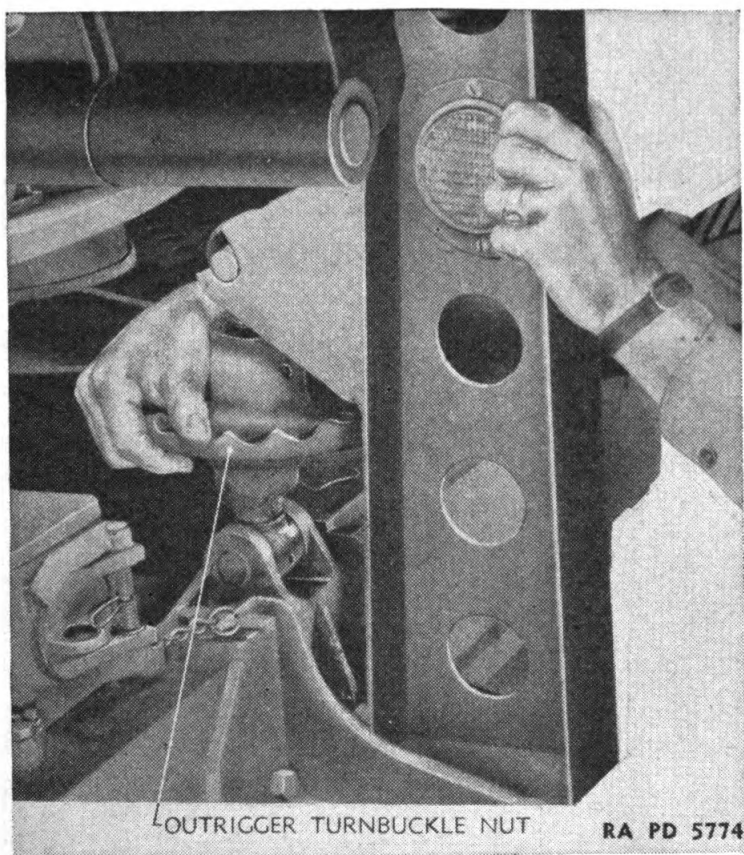
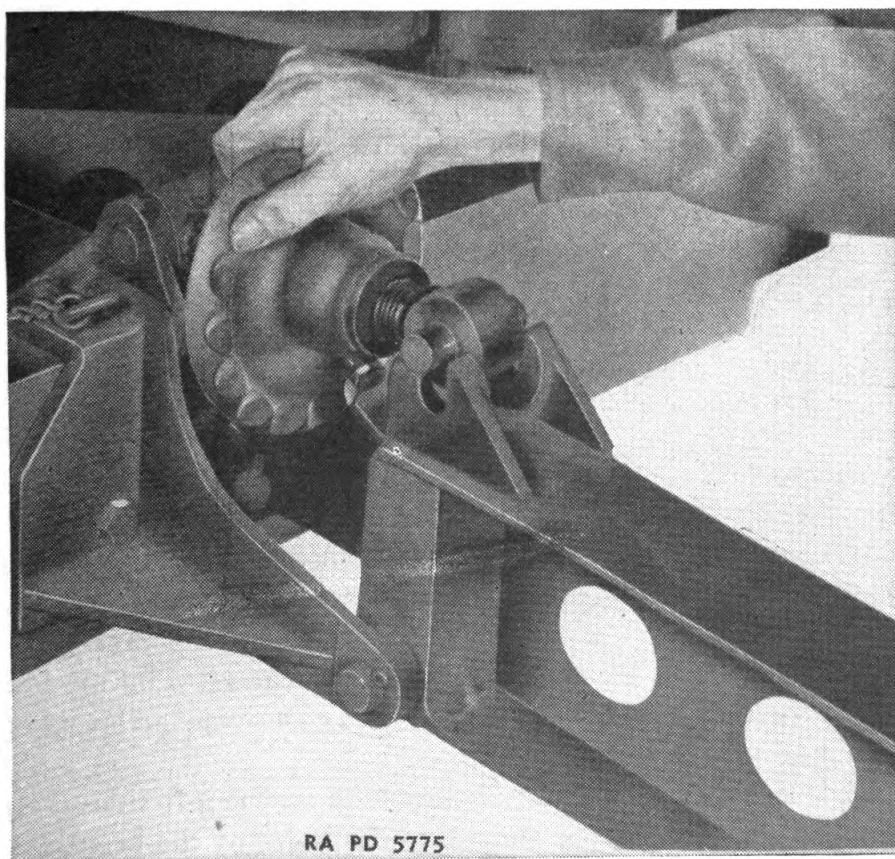

FIGURE 36.—Locking outrigger in traveling position.
FIGURE 37.—Locking outrigger in firing position.
*d. Lowering outriggers when carried in upright position.*—(1) Turn turnbuckle nut counterclockwise until the turnbuckle screw pin is disengaged from its socket on the outrigger (fig. 36).
(2) Lower the outrigger and force it into contact with the ground.
(3) Insert the turnbuckle screw pin into its other socket in the outrigger (fig. 37). Turn the turnbuckle nut counterclockwise until it is tight and holds the outrigger firmly against the ground.
(4) The other outrigger is treated in the same manner.
(5) The firing platform of the M3A1 carriage contains two hinged plates that lead from the platform to the foot pedals. These plates must be extended when the outriggers are lowered.